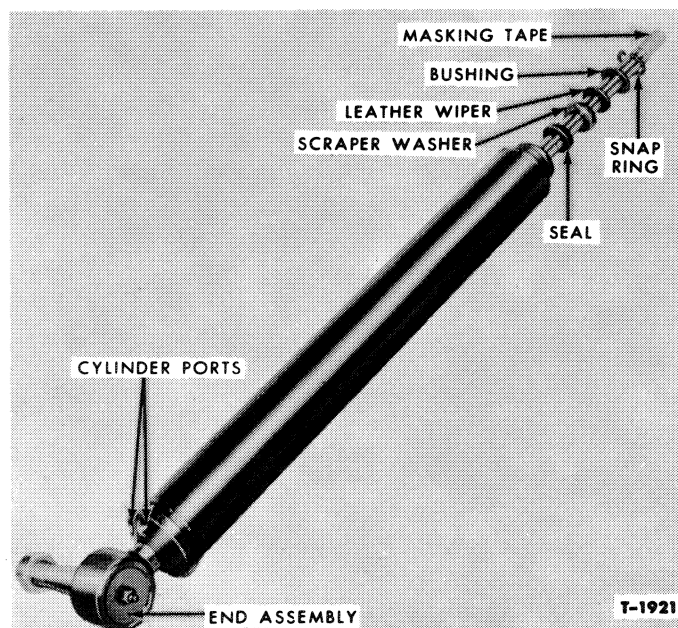

Figure 24—Power Cylinder Assembly
2. Use snap ring pliers to remove the snap ring from the piston rod end of the cylinder, Figure 24.